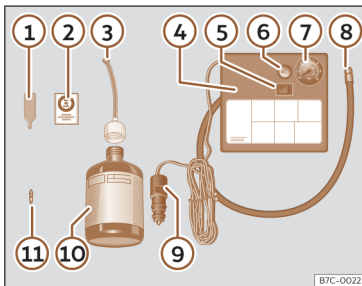

Fig. 188 Standard display: contents of the anti-puncture kit.
The anti-puncture kit is located underneath the floor covering in the luggage compartment. Includes the following components >>> **Fig. 188**:
• Unscrew the tyre valve cap and insert. Use the device >>> **Fig. 188** ① to remove the valve cap. Place it on a clean surface.
- Shake the tyre sealant bottle vigorously >>> **Fig. 188** ⑩.
- Screw the tyre inflation hose >>> **Fig. 188** ③ into the tyre sealant bottle. The bottle's seal will break automatically.
- Remove the filler cap >>> **Fig. 188** ③ and screw the open end of the tube into the tyre valve.
- Replace the howitzer with the device >>> **Fig. 188** ① onto the tyre valve.
- Screw the tyre inflation tube of the compressor >>> **Fig. 188** ⑧ on the tyre valve.
- Check that the air evacuation screw is closed >>> **Fig. 188** ⑥.
- Attach the connector >>> **Fig. 188** ⑨ to the vehicle's 12 volt power outlet >>> page 207.
- Switch on the air compressor with ON/OFF switch >>> **Fig. 188** ⑤.
- Attach the sticker >>> Fig. 188 ② to the instrument panel display, within the driver's field of vision.
Screw in the inflator tube >>> Fig. 188 ⑧ again and check the pressure on the gauge ⑦.